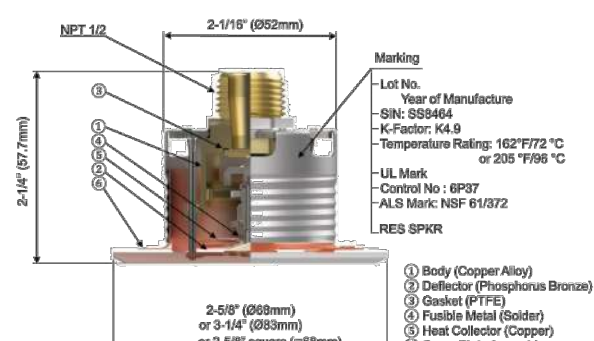

Figure 1: Model RC-RES K = 4.9
- **Physical Characteristics:** Ref. Figures 1 and 1.1